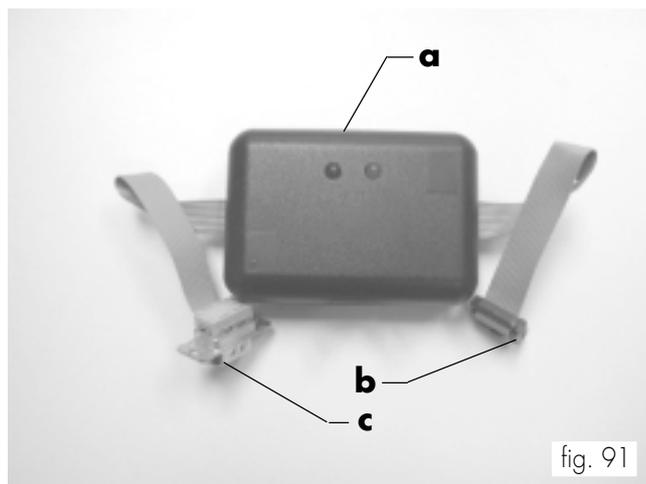

fig. 91
Assembly kit (fig. 91)
- Insert the flat cable (ref. b., fig. 91) on the machine CPU relevant connector to carry out the connection. Then insert the other flat cable (ref. c, fig. 91) into the PC serial cable.